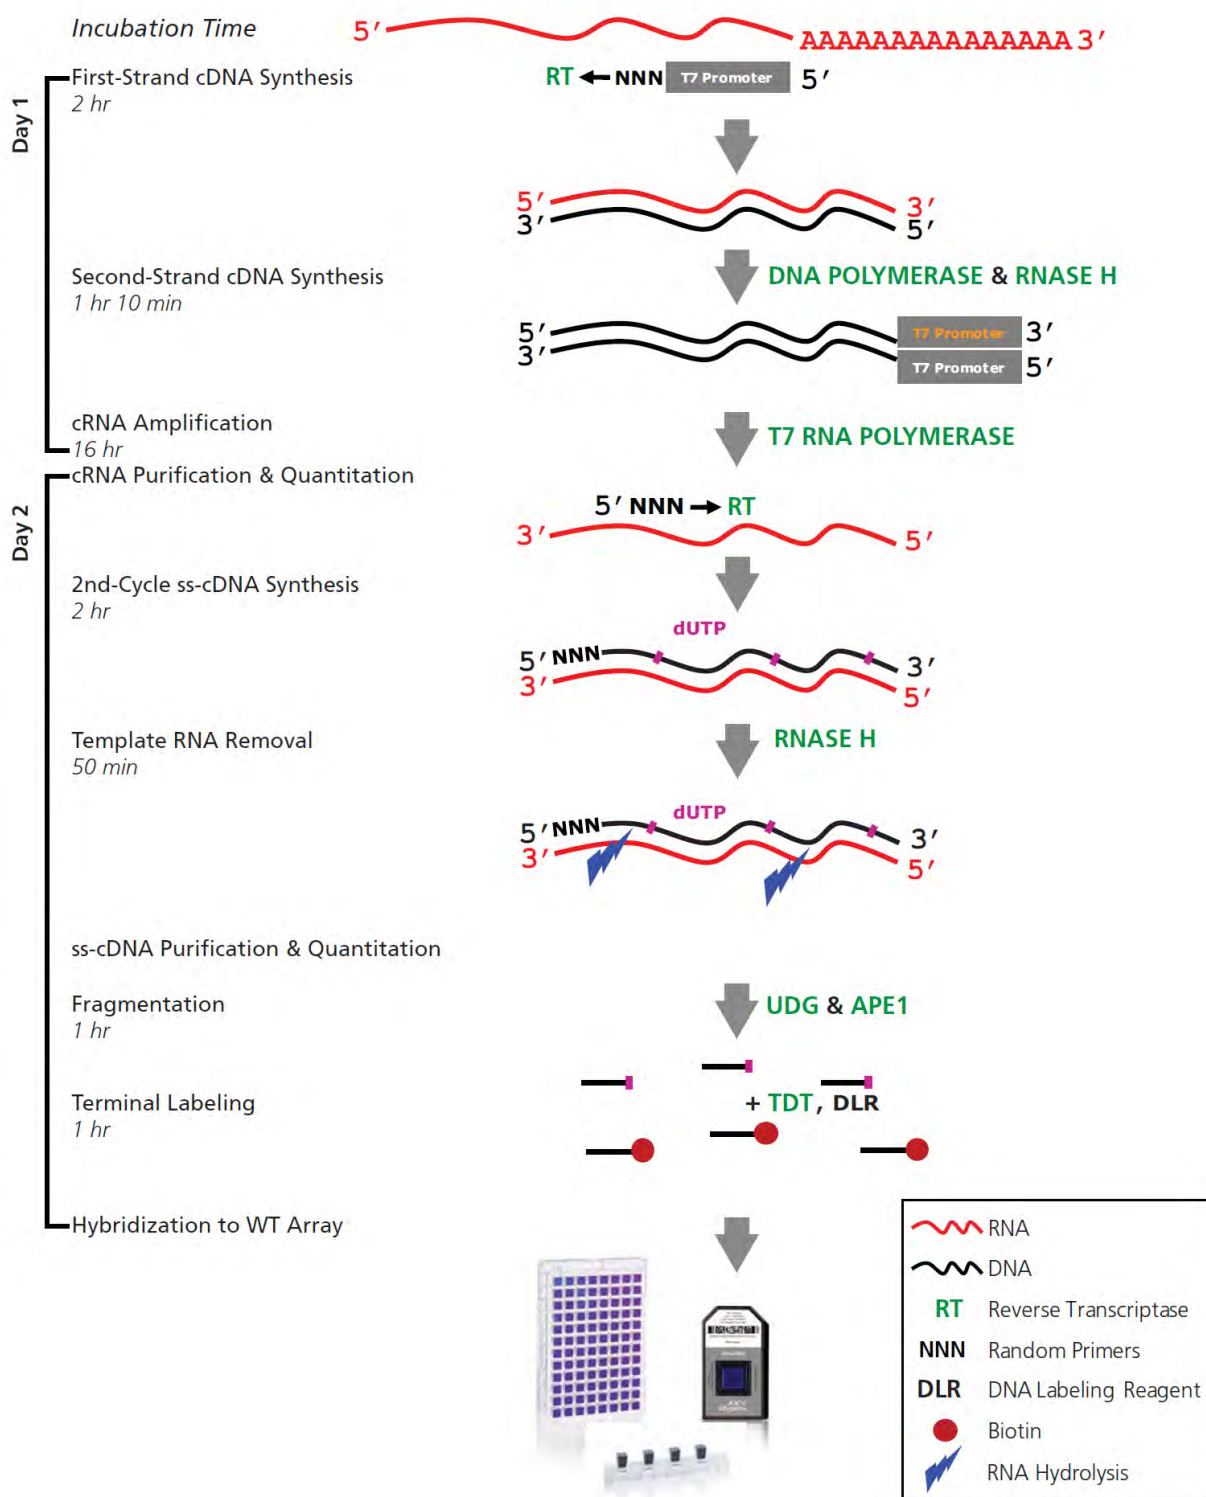

Figure 1 The WT PLUS amplification and labeling process.
The GeneChip™ WT PLUS Reagent Kit uses a reverse-transcription priming method that primes the entire length of RNA, including both poly(A) and non-poly(A) mRNA, to provide complete and unbiased coverage of the transcriptome. See Figure 1.